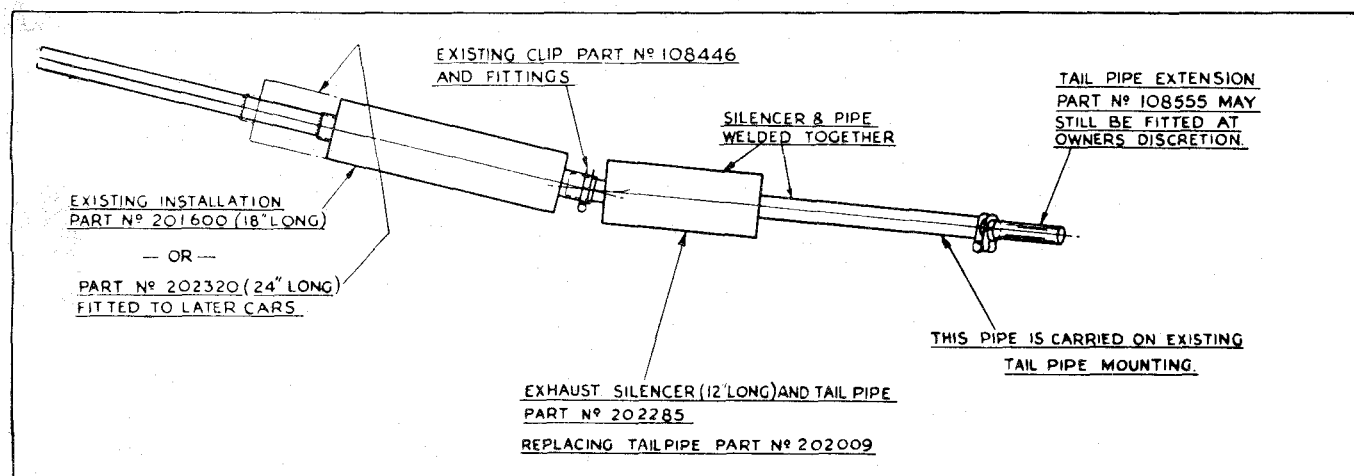

Fig. 2 Method of supplementary silencing provided by 18" Silencer, fitted prior to Com. No. T.S.2532.
Two types of silencers have been used in production, the former 18" silencer being changed for a 24" type at Commission No. TS.2532. A modified tail pipe incorporating a 12" silencer can be fitted, at the owner's discretion, to the shorter type silencer, if the exhaust note is considered too loud (see Fig. 2). This modified tail pipe fits into the main silencer and is attached with the existing clip.
- (c) If the tail pipe incorporating the small silencer is being fitted it is attached in a similar manner to the pipe and uses the existing clips. Fig. 2.